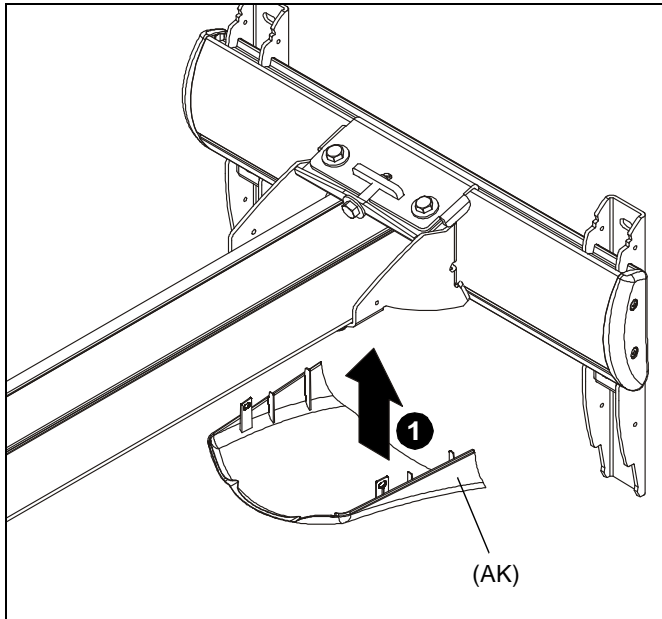

Figure 51
1. Raise the lower cover (AK) to wall mount and hold in place. (See Figure 51)